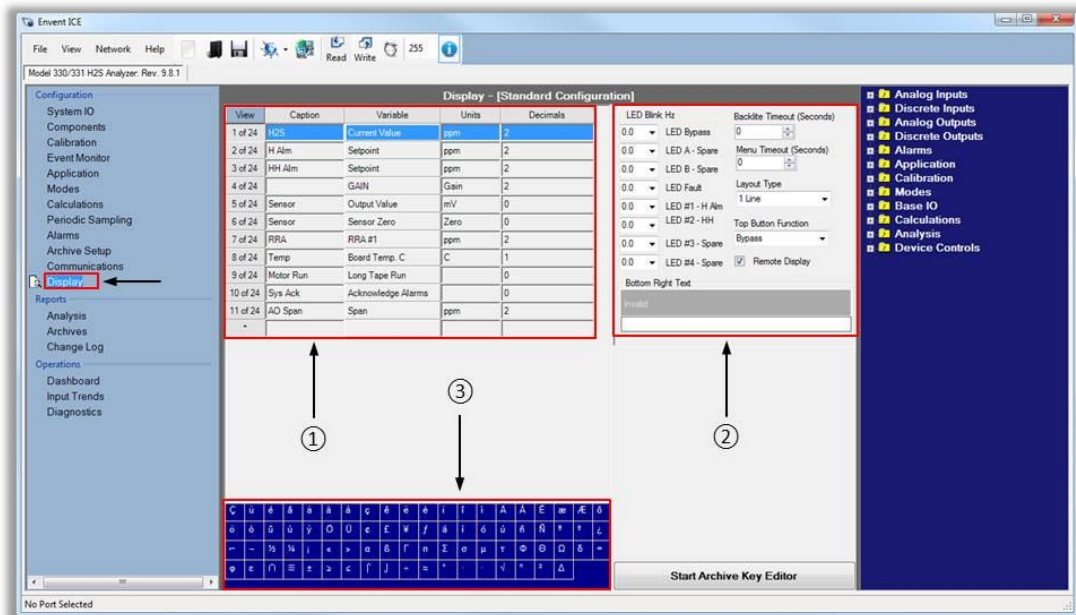

Figure 11. ICE Software: Configuration: Display Tab
To configure or change the factory configuration on the display, go to the "Display" tab on the left hand menu. Figure 11 area ① shows the current variables that appear in the analyzer display. Area ② shows different options for the LED's, display options, and button options. Area ③ is used for adding special characters into the caption and units areas.
Units are a simple multiple of the unit of measurement that describes the variable selected. Refer to Figure 11 area ①.
This is where the amount of decimals per variable are decided. Refer to Figure 11 area ①. For lower range H₂S analyzers (e.g. 0-20 ppm) it is recommended to use 1 to 2 decimal points, but for high range (e.g. 0-10,000 ppm) it is recommended to not use decimal points as they are not significant enough for these ranges.
This option is used to make the LED blink when activated. The lower the value, the fastest it will blink. Zero value means no blinking. Refer to Figure 11 area ②.
Amount of seconds the display backlit will stay ON after pressing a display button. Zero means the backlit stays always ON. Refer to Figure 11 area ②.
The amount of seconds the display will wait until it automatically returns to the main menu. Zero means the display will not return to the main menu automatically. The user will need to complete the menu cycle (by pressing the menu button – lower button) until it goes back to the main menu. Refer to Figure 11 area ②.
This applies to the main menu in the analyzer display. The user can select from 1 to 4 items. These items refer to the variables selected in Figure 11 area ①. If "2 lines" is selected, the 1st and 2nd variables will appear in the main menu.